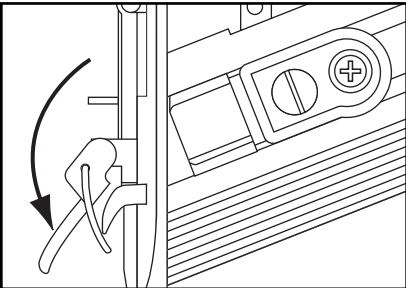

Figure 6. Releasing guide cover latch.
3. Flip up the quick release latch located on top of the nailer nose assembly as shown in **Figure 6**.